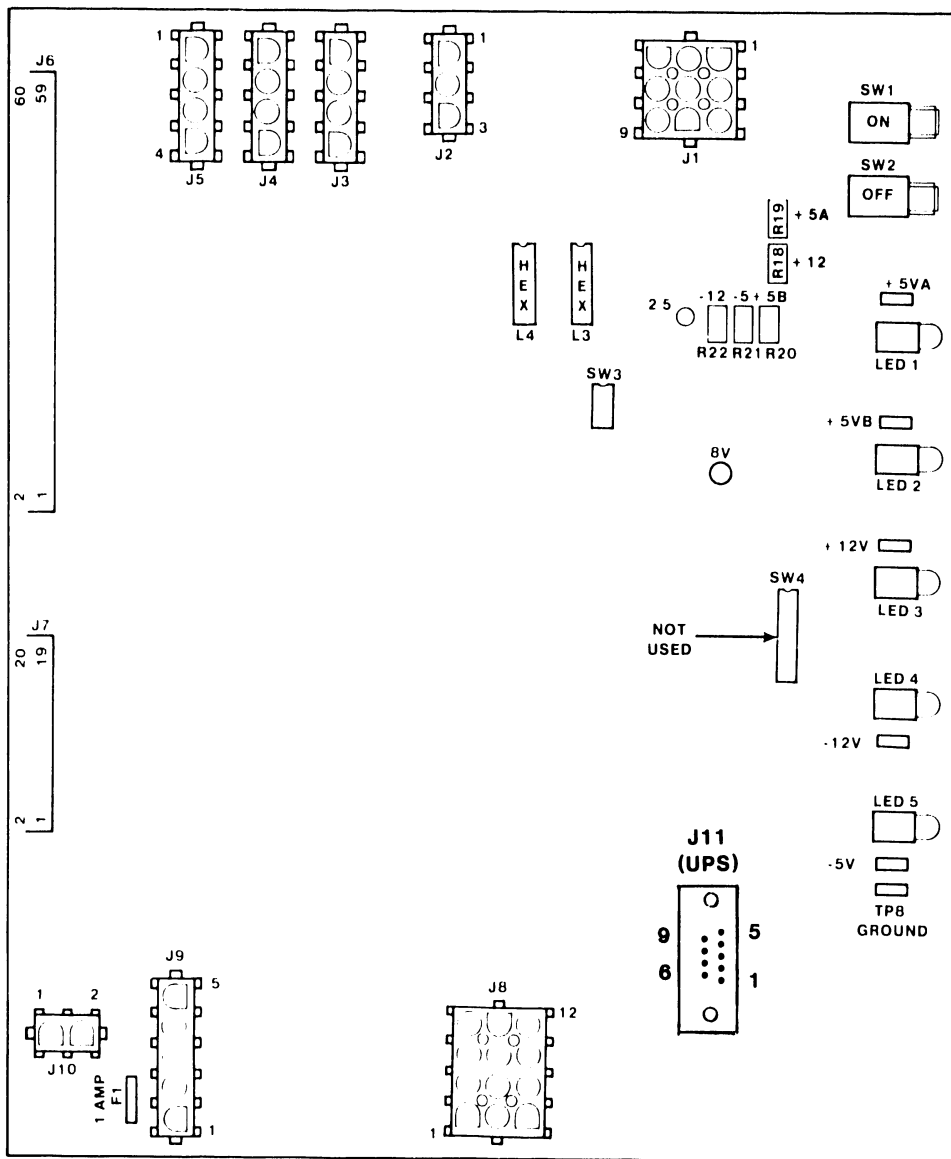

Figure 8-2. Power Supply Controller Board.
- a. Remove the 4-pin connector from J5 of the Power Supply Controller board. (Figure 8-2.)
1. Although there are no adjustments, measure the calibration voltages on the Power Supply Controller board (figure 8-2), at: